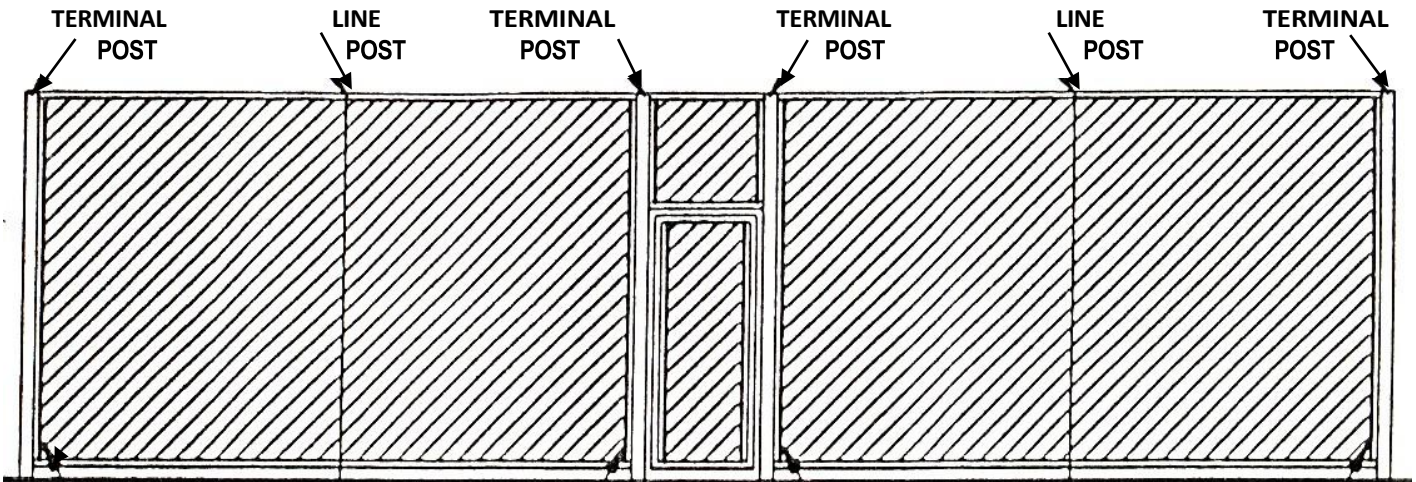

FIGURE 1
1. Begin measurement at the center of the left-most terminal (corner) post and continue to the next terminal post and note the length (see Figure 1). Make sure that your tape measure is pulled tight for correct measurements.